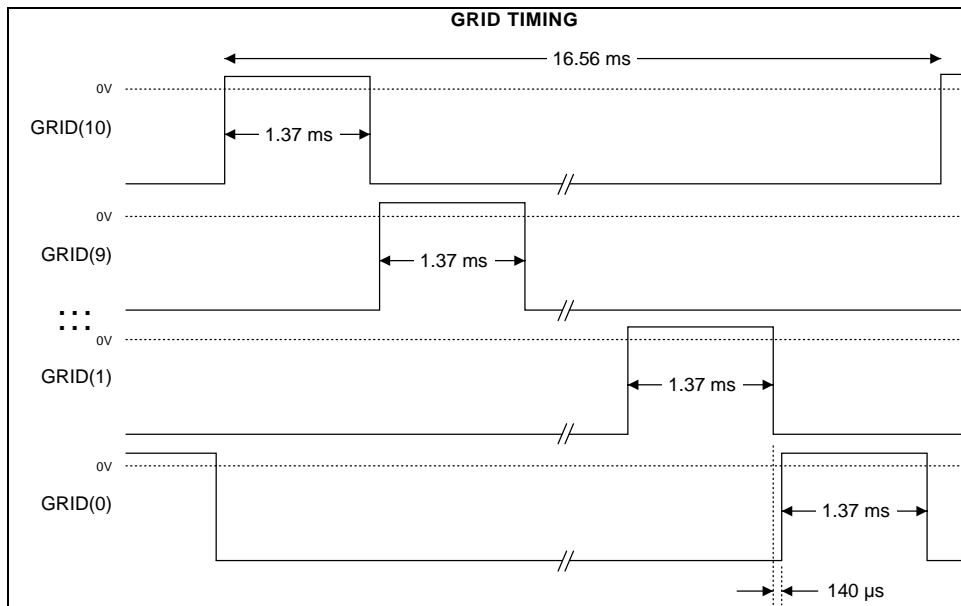

Figure 2-5. Grid Control Signal Timing
The Display Controller provides multiplexed drive to the vacuum-fluorescent display by strobing each grid while the segment data for that display area is present on the anode outputs. Each grid is strobed for approximately 1.14 milliseconds every 13.8 milliseconds, resulting in each grid on the display being strobed about 72 times per second. The grid strobing sequence is from GRID(10) to GRID(0), that results in left-to-right strobing of grid areas on the display. Figure 2-5 shows grid control signal timing.